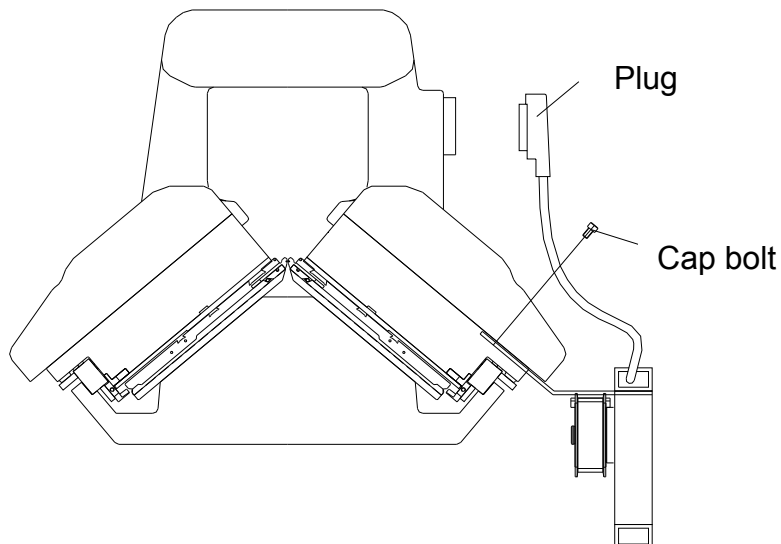

Fig.7.6.1 Remove the carriage
- d. Loosen the fitting screw and cap bolt on connecting plates as shown in Fig.7.6.1. Then pay attention to remove the carriage.